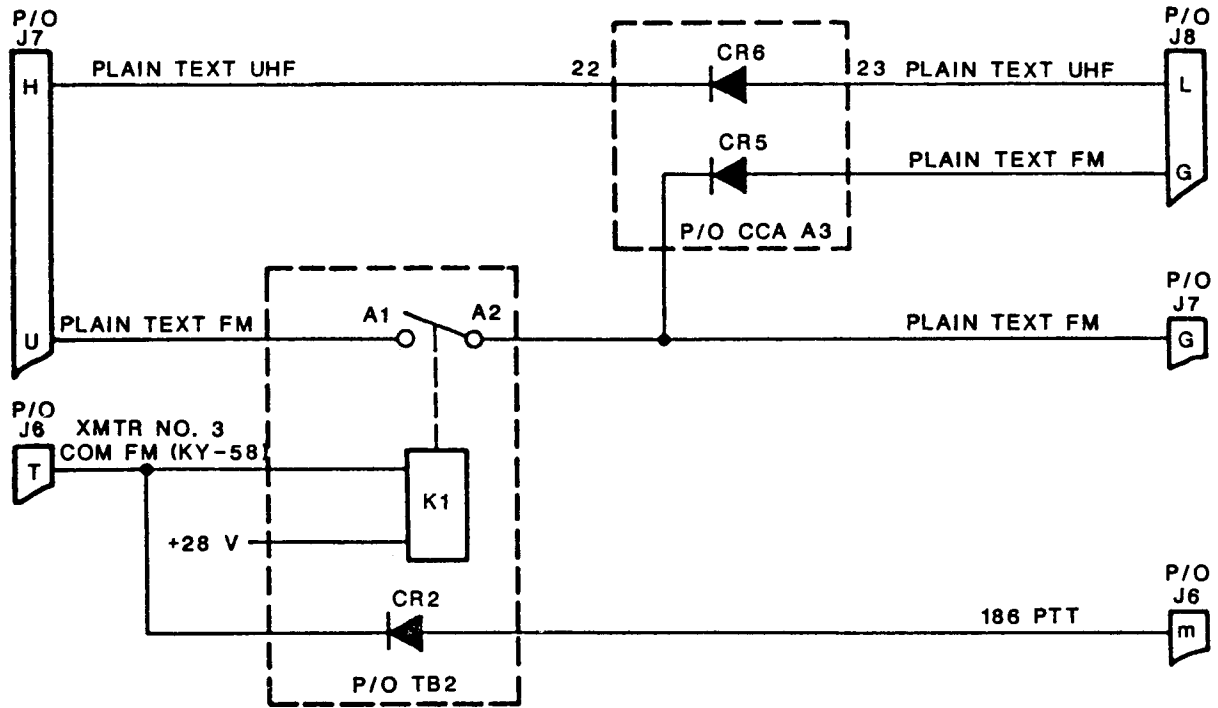

Figure 3-3. Countermeasures Control Monitor Circuits Simplified Schematic Diagram
(3) Monitor Circuits. As shown in figure 3-3, terminal board TB2 and diodes CR5 and CR6 receive transmitter control and plain text inputs. Relay TB2K1 is operated by a logic 0 transmitter control input from external system equipment at connector pin J6-T. The logic 0 input also causes a low signal through diode TB2CR2 and connector pin J6-m to external system equipment. When relay TB2K1 operates, contacts A2 and A1 close to connect the PLAIN TEXT FM signal at connector pin J7-U to diode A3CR5 and to external system equipment at connector pin J7-G. When the PLAIN TEXT FM signal is a logic 0, the PLAIN TEXT FM outputs are also low at connector pins J8-G and J7-G. The PLAIN TEXT UHF monitor circuit is a direct link to the system with no separate controls such as relay K1 to affect its operation. When a logic 0 is input to connector pin J7-H, diode CR6 is forward biased placing the logic 0 on connector pin J8-L. When a logic 1 is placed on connector pin J7-H, diode CR6 is reverse biased and connector pin J8-L becomes a logic 1.